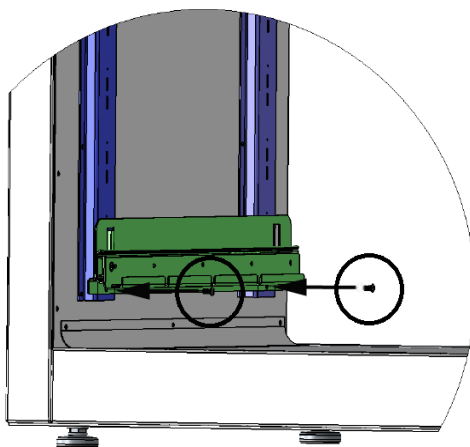

Figure 8: Sliding Mounting Bracket Screws
3. Secure the bottom flange of the sliding bracket to the shelf standard rails by threading and screwing in 2 screws, on the front and back of the flange. See Figures 8 and 9.